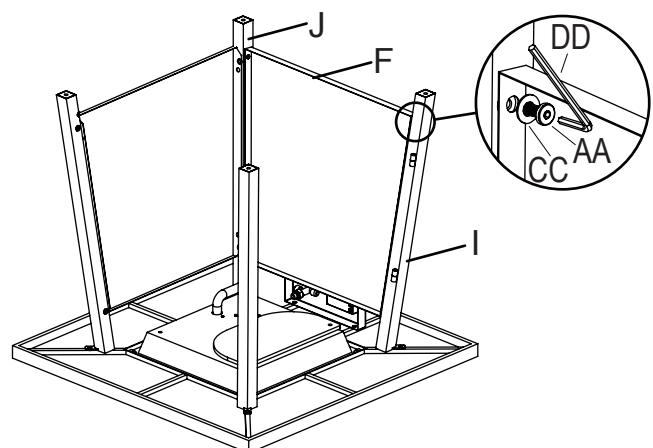

Figure 4
4. Attach front panel (F) to front-left leg (J) and front-right leg (I) with bolts (AA) and washer (CC) using hex screw driver (DD), (see Figure 4).